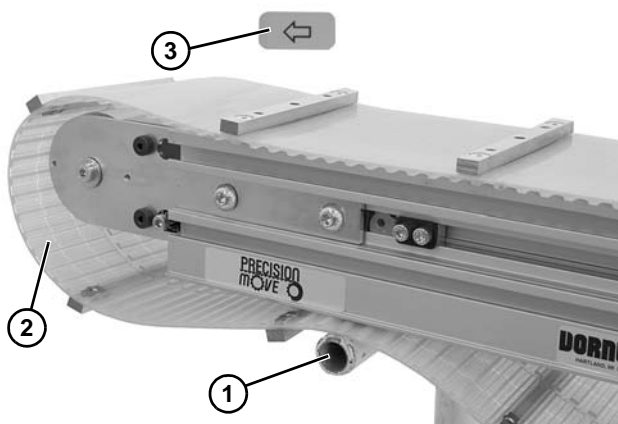

Figure 28
1. Ensure temporary support stands (**Figure 28, item 1**) are placed at both ends of the conveyor. Place an additional support stand under the drive motor, if equipped. See WARNING.
2. Orient belt (**Figure 28, item 2**) and point in the direction of belt travel as identified by the conveyor directional label (**Figure 28, item 3**).
3. Install belt (**Figure 28, item 2**) on conveyor. Lift conveyor slightly to avoid pinching belt on temporary support stands.